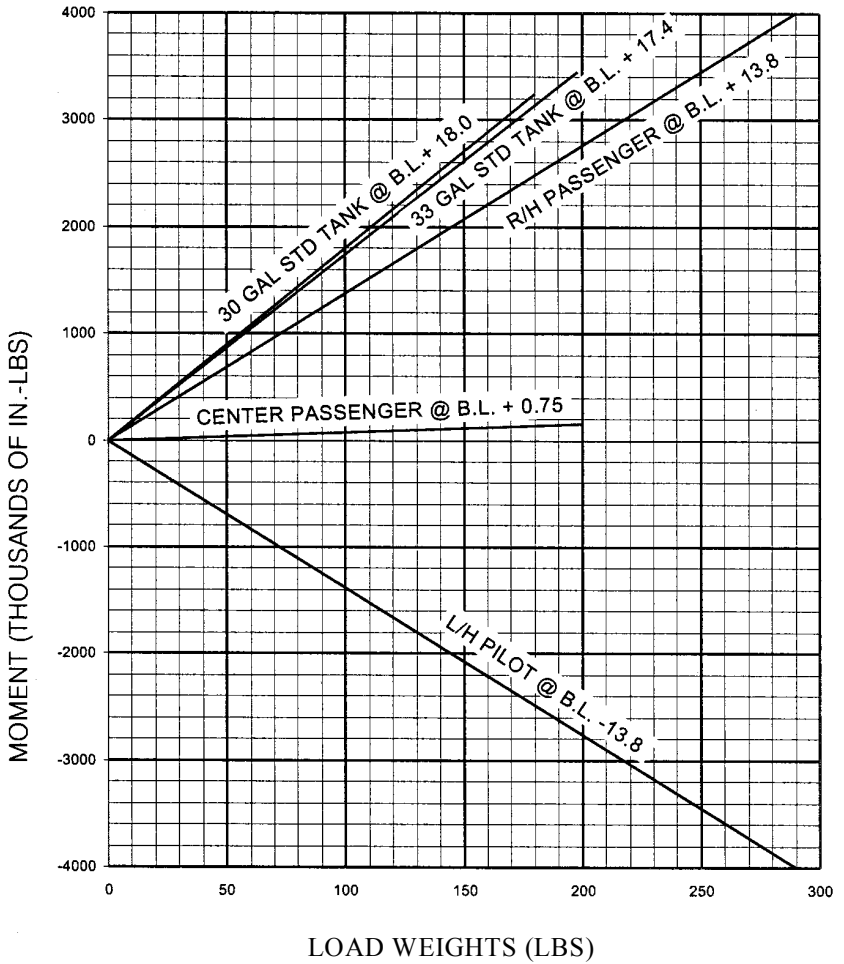

Figure 6-5. Weight and Moment Chart - Lateral
- b. Determine weight and lateral moment of useful load items (CSP-C1-1G, Fig. 6-5).